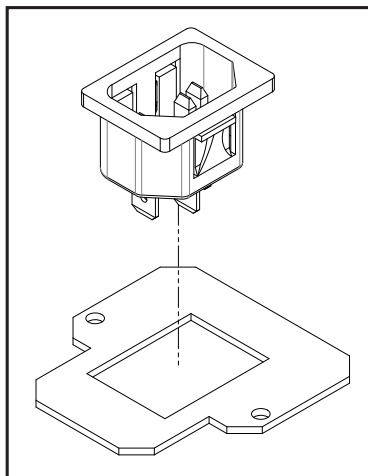

Figure 83: Electrical Adapter Plate
3. Press the IEC outlet into the adapter plate (included in the manual bag). Refer to Figure 83 for proper geometry and orientation. **Make sure tangs are completely seated of the plug will not engage fully.**
5. Attach the adapter plate through the firebox reusing the two (2) T20 screws (see Figure 83).